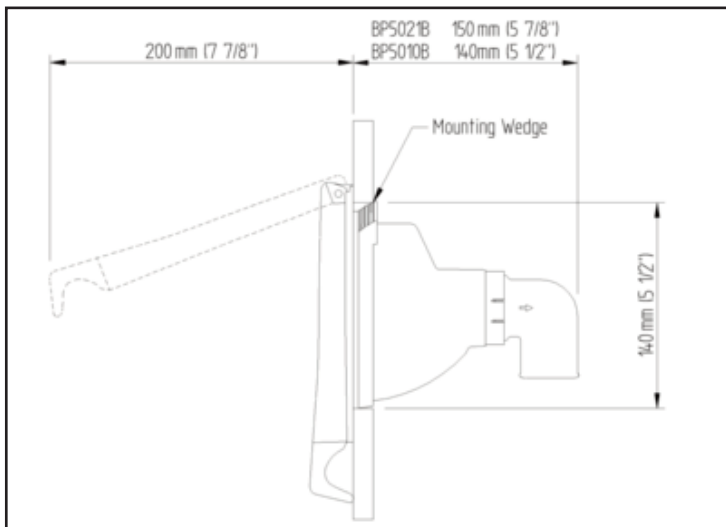

Fig.2 Maximum Dimensions
1. Ensure that there is enough room behind the bulkhead for full depth of the pump when installed. This must include space for inlet and outlet hoses. (See Fig. 2 for maximum dimensions).